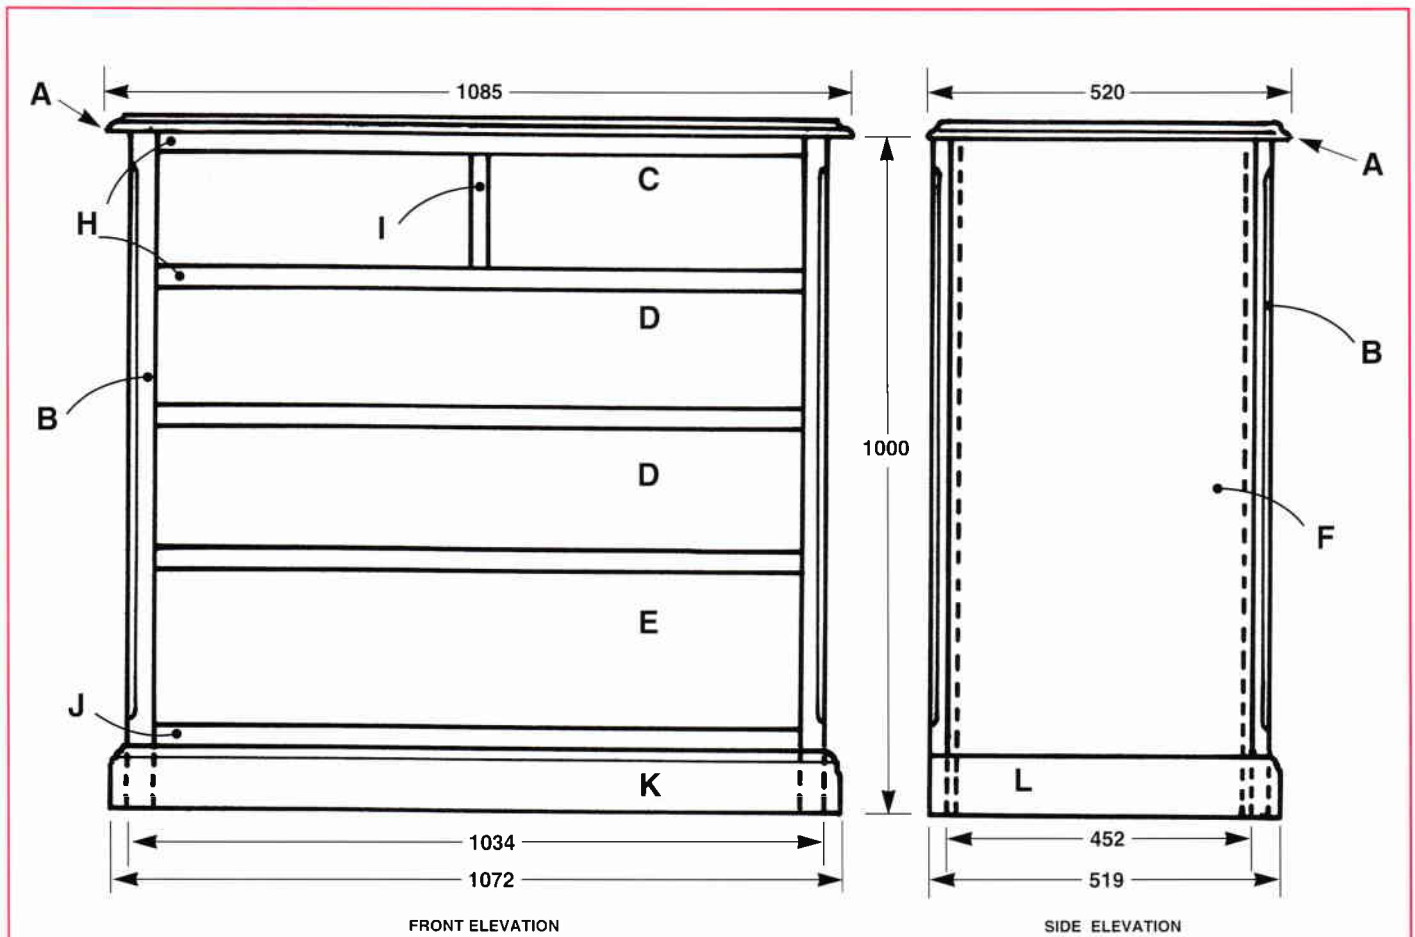

FIGURE 1
In the crosscut mode, cut the 290 x 32mm material to length (1085mm) for the top (A). Cut the material to length for the corner posts (B) (1000mm). (Figure 1)